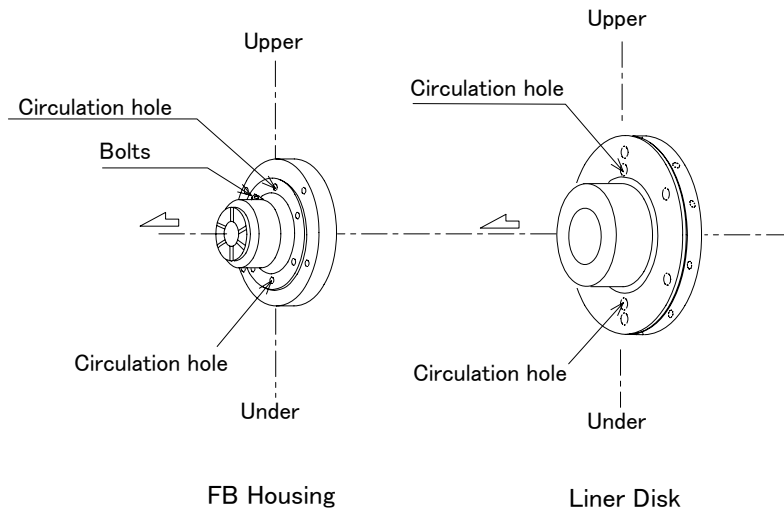

Fig.4-24 Sense of FB Housing and Liner Disk
- (5) When mounting the FB housing (H13) and liner disk (D05), tighten bolts (221) or (222) uniformly and firmly. Loose tightening may cause a fault. The liner disk should be positioned so that the marking “UP” be upward and circulation holes are arranged at top and bottom, because circulation holes serve for both air venting and draining. At this time, the bearing setscrew (231) in the FB housing should be positioned upward. (Refer to Fig.4-24.)